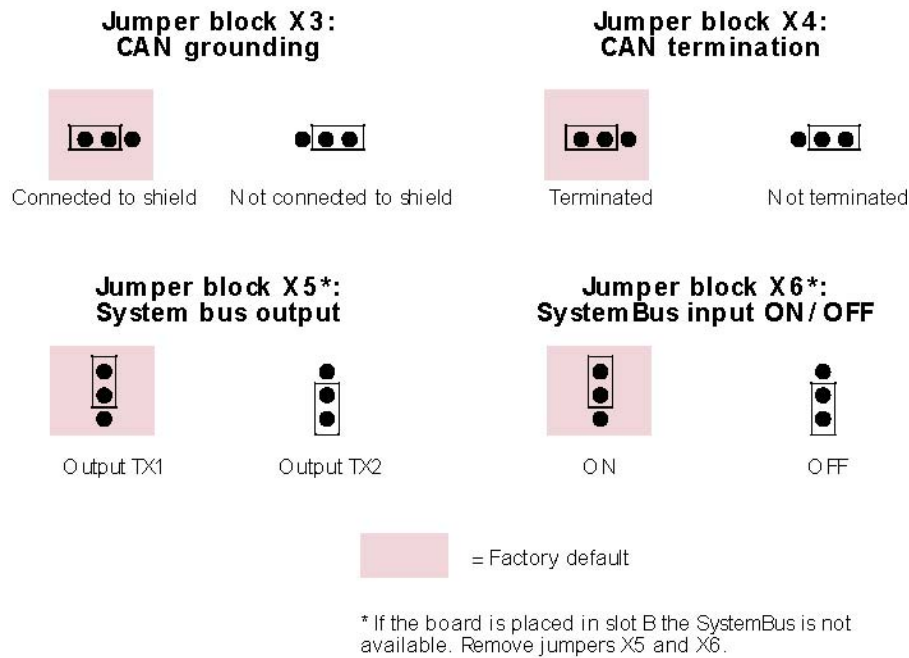

Figure 3-14. Jumper Selections for OPT-D2
- Allowed slots: (B,)D, E. NOTE: If only the Monitor Bus (terminals 21 to 23) will be used, the board can also be placed in slot B. The System Bus is then unavailable. Therefore, remove jumpers X5 and X6. See Figure 3-14.
- Jumpers: 4; X3, X4, X5 and X6. See Figure 3-14.